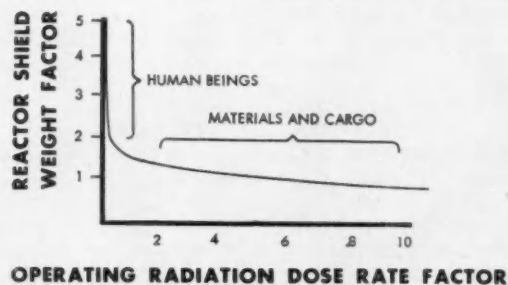

Fig. 3—Humans are 10,000 times more sensitive to radiation than their planes or cargos.
- Low crew dosage—maximum radiation for humans is 1/10,000 that for glass, see Fig. 3.